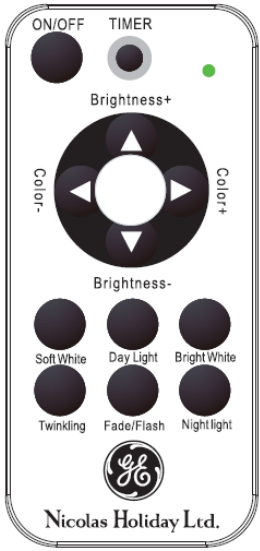

Fig.2
- 2. The remote has twelve buttons {Fig. 2}